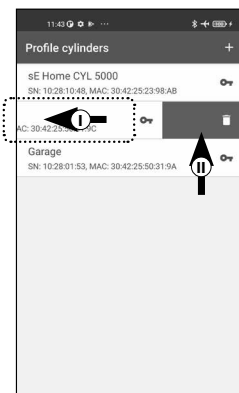

Fig. 26
- 5 A list with setup cylinders is displayed. Swipe the entry of the cylinder you wish to delete to the left (I) and tap on the "DELETE" field (II) that appears on the right (Fig. 26).